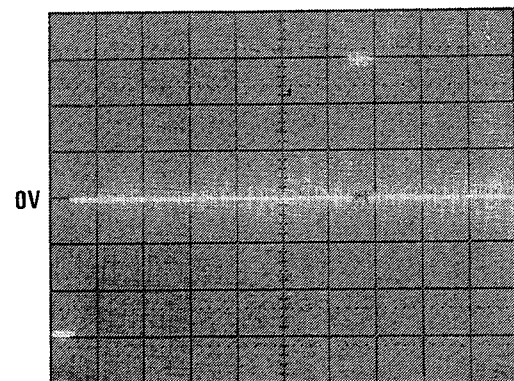

Figure 4-45
25. Set the delay between the negative and positive-going pulses to 3.5ms as shown in Figure 4-45 and check that counts do not register on the 3776 Phase display.